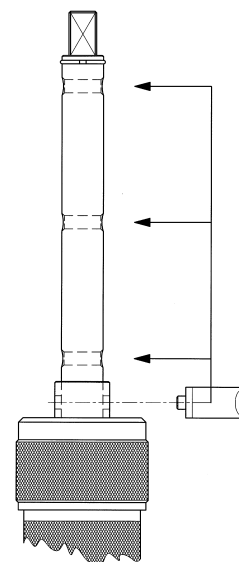

Figure 38
- Select the position of the chuckshaft depending on the distance it will have to travel during drilling, placing the retention mechanism in the most appropriate opening of the three located on the shaft (middle orifice for 2" TOR and upper orifice for 1½" and 2" 3-way tees). See *Figure 38*.